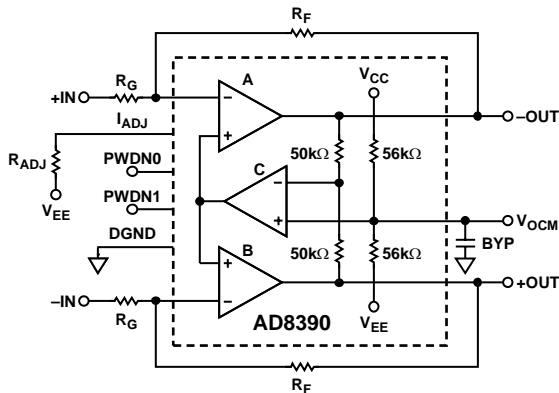

Figure 22. Functional Block Diagram
The AD8390 is a true differential operational amplifier with common-mode feedback. The AD8390 is functionally equivalent to three op amps, as shown in Figure 22. Amplifiers A and B act like a standard dual op amp in an inverting configuration that requires four resistors to set the desired gain.
The third amplifier (C) maintains the common-mode voltage ( $V_{OCM}$ ) at the output of the AD8390.  $V_{OCM}$  is internally generated, as shown in Figure 22. The common-mode feedback amplifier (C) drives the noninverting terminals of A and B such that the difference between the output common-mode voltage and  $V_{OCM}$  is always zero. This functionality forces the outputs to sit at midsupply, which results in differential outputs of identical amplitude and 180 degrees out of phase. The user also has the option to externally drive the  $V_{OCM}$  pin as an input to set the dc output common-mode voltage. For details, see the Setting the Output Common-Mode Voltage section.